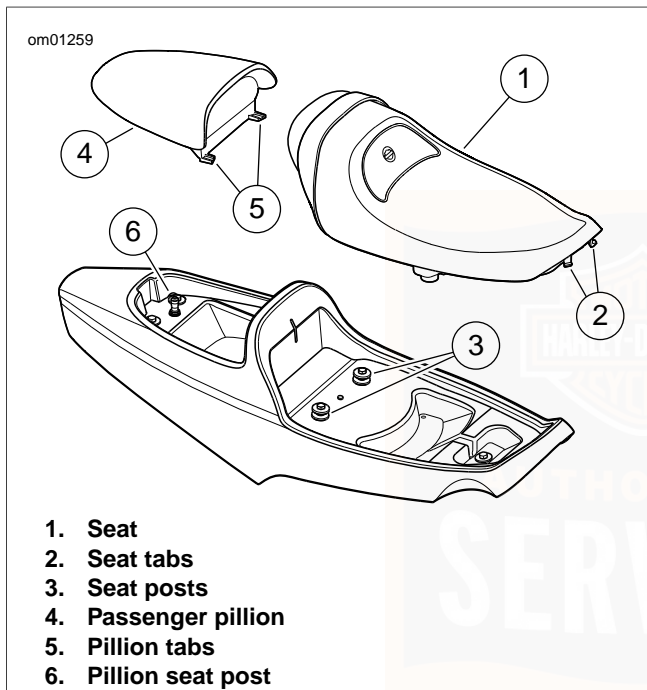

Figure 74. Seat and Pillion: XR 1200 Model
1. See Figure 74. Place rear of seat into tail section, aligning the guides in the seat bracket with the two seat posts.